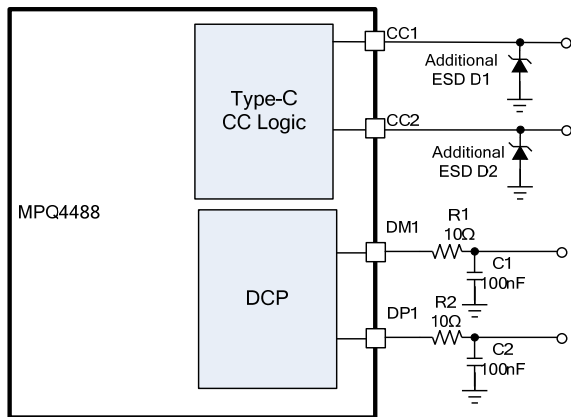

Figure 11: Recommended I/O Pins ESD Enhancing
Higher ESD levels should be considered for all USB I/O pins. The MPQ4488 features high ESD protection up to $\pm 8\text{kV}$ human body model on DP, DM, USB1, and USB2, and $\pm 5.5\text{kV}$ human body model on CC1 through CC4. The ESD structures can withstand high ESD both in normal operation and when the device is powered off. To further extend DP and DM's ESD level for covering complicated application environments, additional resistors and capacitors can be added (see Figure 11).
11) See Figure 11 for I/O pins' ESD protection enhancing details.